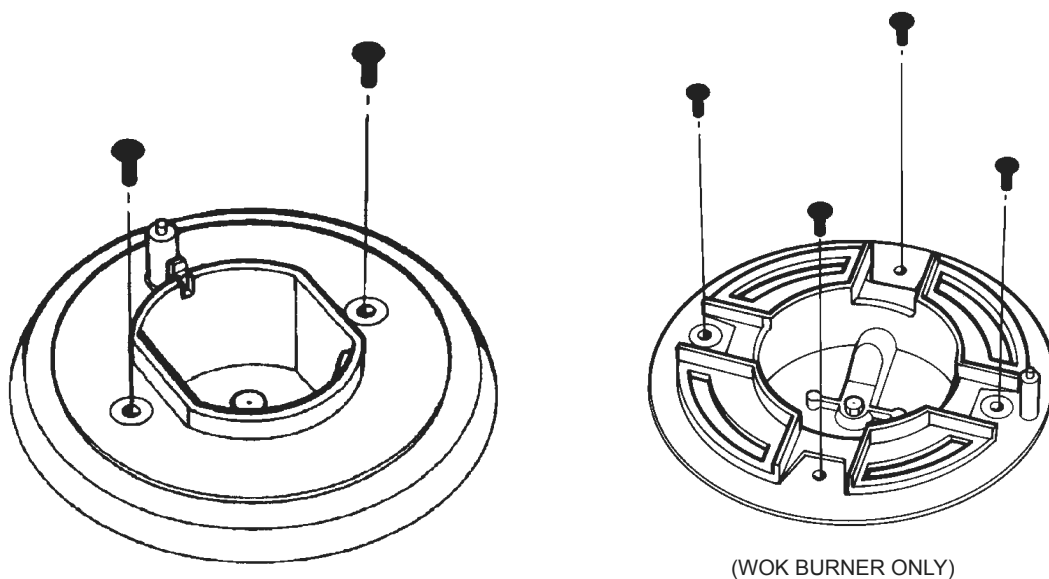

Fig. 10.3
- B. Remove all of the screws retaining hotplate burner trims (4 from Wok burner, 2 each from the other three burners). (See **Fig. 10.3**).